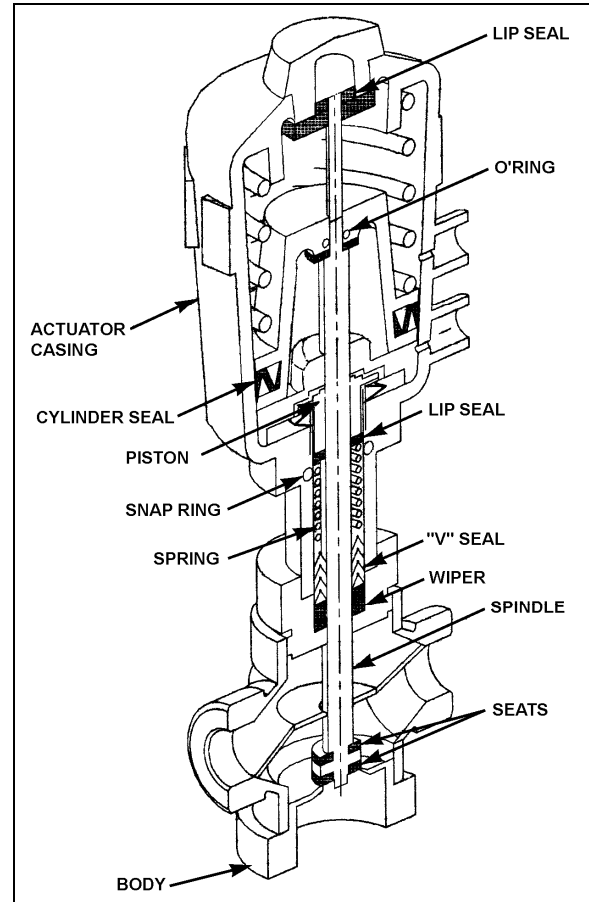

FIGURE 44: PNEUMATIC WATER VALVE
2. Tighten the nipple in place in the body cavity as per figure 44. Fasten pilot solenoid valve to the pneumatic water valve. Reconnect air supply pressure and electrical current to the pilot solenoid valve.